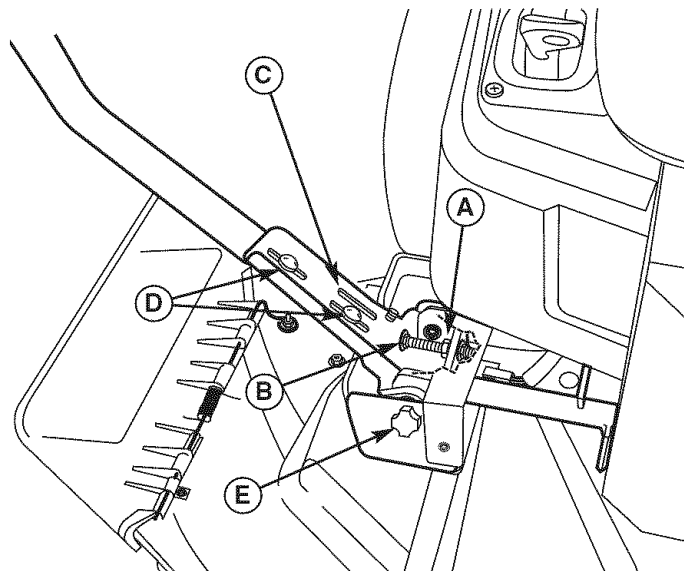

Figure 32. Control Lever Adjustment
**To Adjust Control Lever Height:** Pull the levers in across the operator's lap to their DRIVE positions. Loosen the mount bolts (D, Figure 32) and raise or lower the levers to the desired position. Tighten the mounting bolts.(D).
**To Adjust Control Lever End Gap:** The control lever end gap should be adjusted so that the levers do not contact each other when placed in DRIVE positions. Loosen the jam nut (A, Figure 32) and adjust the length of the carriage bolt (B) so that the levers do not contact each other. Repeat on the opposite side. Tighten the jam nut (A) to lock the carriage bolt in position.
**To Adjust Operator Clearance:** The space between the operator and the control levers can be increase by removing the lower mounting bolt (D, Figure 32), pivoting the lever forward, and reinstalling the capscrew through the control lever and forward slot (C). Repeat with the other ground speed lever.
If the rider veers to the right or left when the ground speed control levers are in the maximum forward position, the top speed of the right lever can be balanced by turning the adjustment knob (E, Figure 32). Loosen the jam nut and turn the knob COUNTERCLOCKWISE to increase speed or CLOCKWISE to decrease speed. Tighten the jam nut when complete.